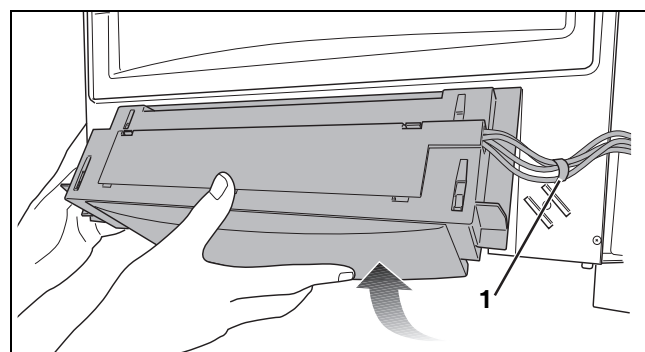

Fig. 99 Removing the control panel
- ▶ Remove the control panel(→ fig. 99).